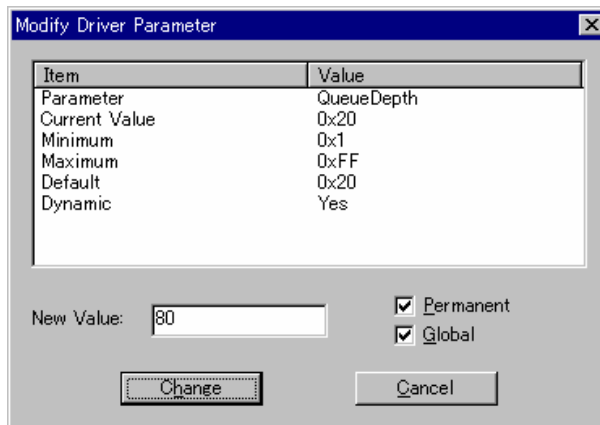

Figure C.4 Setting the Queue Depth Value
5. Set the desired Queue Depth as a hexadecimal value in the **Modify Driver Parameter** screen (refer the Figure C.4).